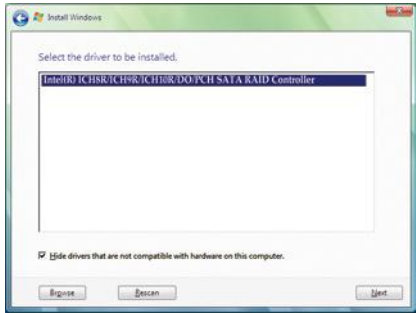

Figure 3
When a screen as shown in Figure 3 appears, select **Intel(R) ICH8R/ICH9R/ICH10R/DO/PCH SATA RAID Controller** and click **Next**.